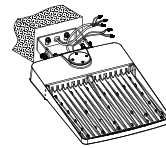

Figure 3-3
Step3: Connect the input wires of the fixture to the mains properly, Figure 3-3;